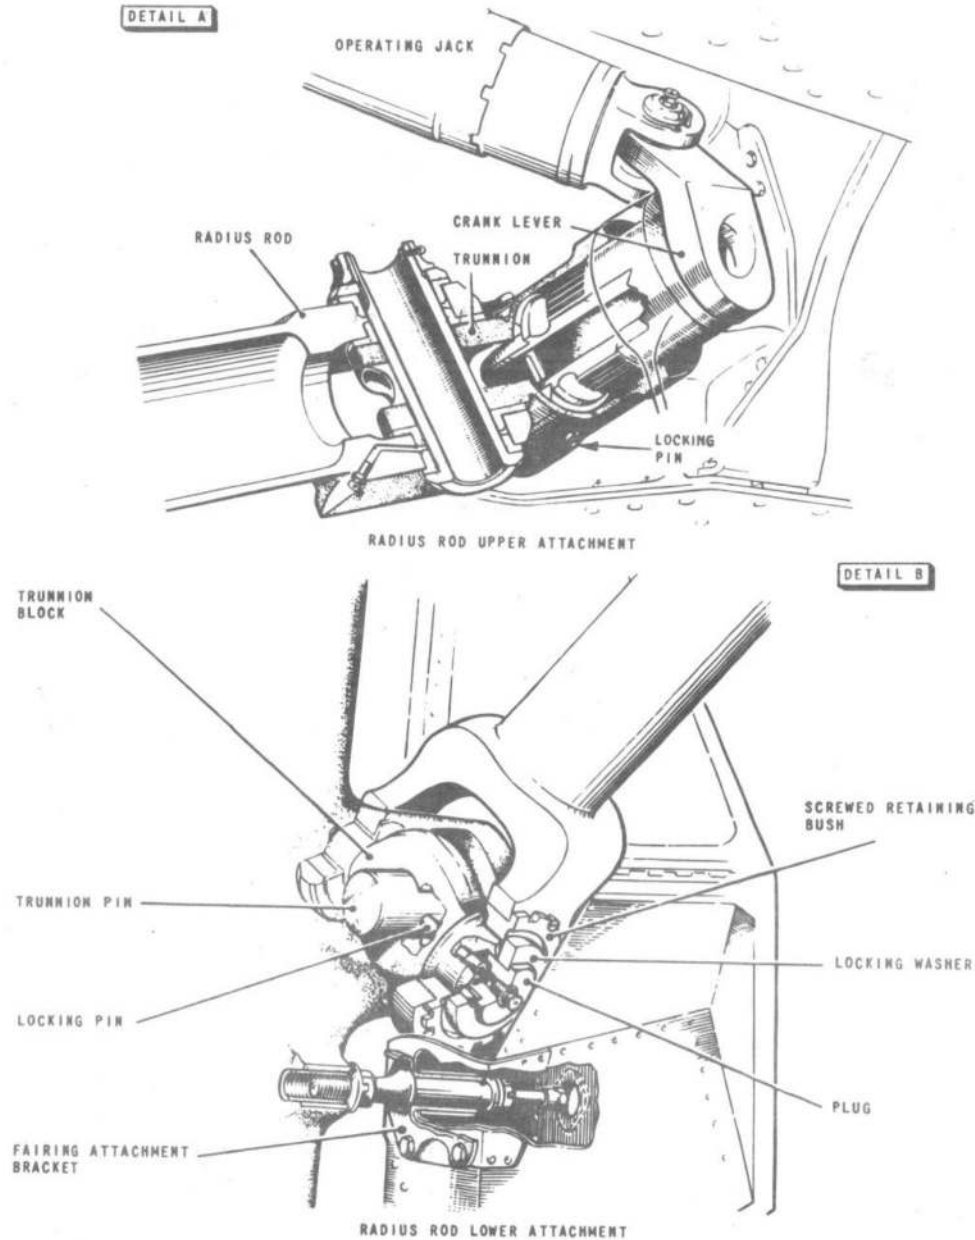

Fig. 14. Radius rod - removal and assembly
Radius rod (fig.14 and 15)**Removal****43.**
- (6) Remove the retraction jack (para.39).
- (7) Remove the ground electrical supply and ensure that the battery switch is off.
- (8) Disconnect the flexible hydraulic fluid pipe at the top of the radius rod. Blank the pipe and union.
- (9) Disconnect the down-lock micro-switch cable from the terminal blocks on spar 4.
- (10) Unstrap the microswitch cable from the hydraulic fluid pipes, and slacken the clips around the undercarriage strut sufficiently to permit withdrawal of the cable.
- (11) Detach the radius rod from the strut in the following sequence (fig.14, detail B):-
(12) Unlock and withdraw the locking pin securing the trunnion to the crank lever (fig. 14, detail A).
(13) Support the weight of the radius rod and withdraw the crank lever from the main-plane bracket.
(14) Remove the radius rod, insert the crank lever through the splined lever on the radius rod, and lock it with the locking pin.
(1) Remove the locking pin from the splined lever and withdraw the crank lever (fig. 14, detail A).
(2) Smear the crank lever splines with grease XG-278.
(3) With the knuckle joint broken, position the radius rod so that the splined lever is aligned with the wing bracket, and the microswitches face aft.
(4) Noting the position of the master spline, insert the cranked lever through the bracket and the splined lever.
(5) Insert the locking pin and fit a new split pin.
(6) Engage the fork at the lower end with the strut lug and assemble the trunnion joint as follows (fig. 14 detail B):-